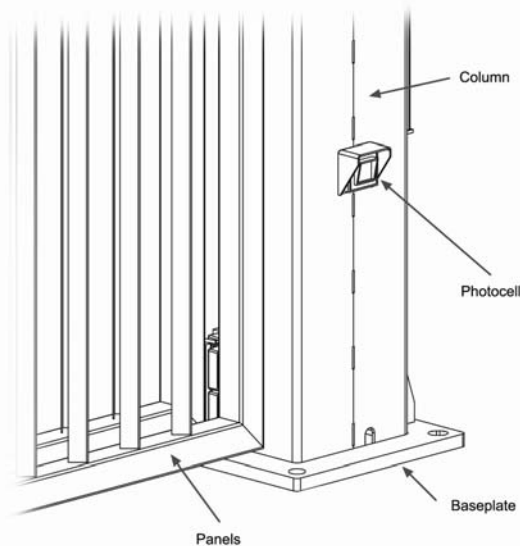

FIGURE 3.1
- Photocell; the through-beam photocell (see figure 3.1) is used to detect physical objects just in front of the gate travel path. If it is blocked during the opening or closing motion of the gates, the gates will stop and reverse to the cycle start position. If the gate is at the open position and the timer-to-close is activated, the gate will function as normally configured.